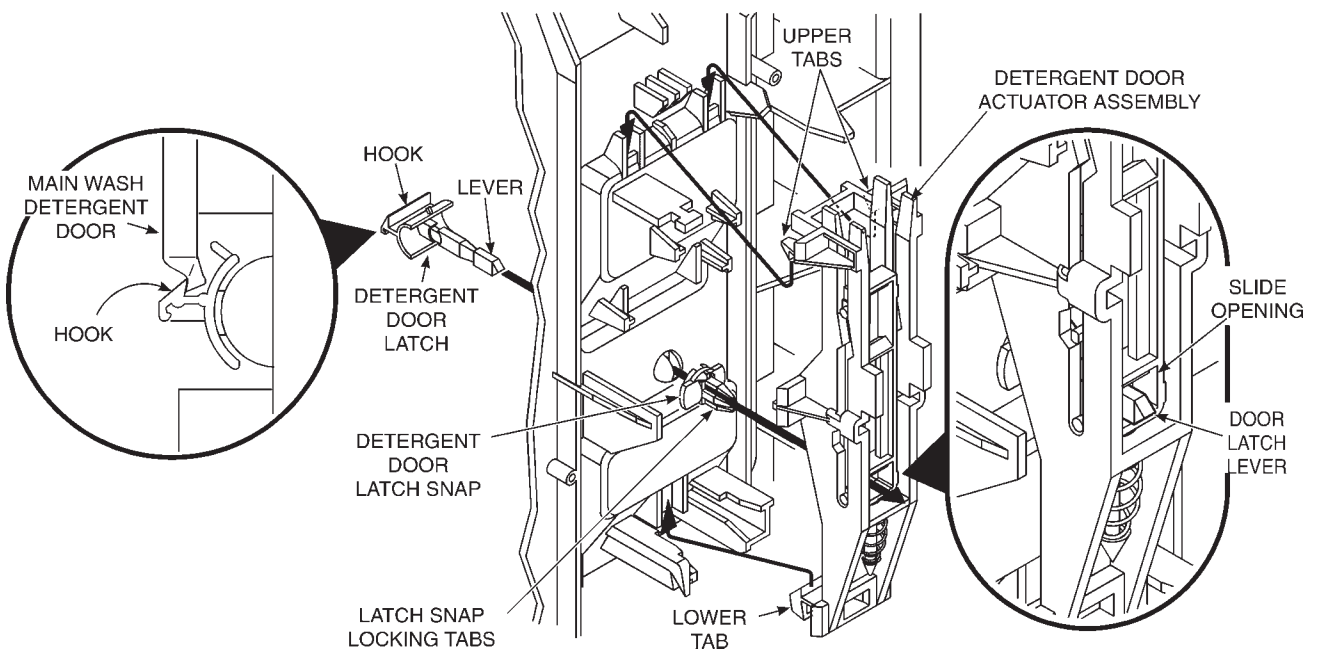

Fig. 3-14
9. Use a screwdriver to gently release the lower tab and remove the detergent door actuator assembly. As you do, note the position of the door latch level through the hole in the lower slide. (Fig. 3-14)
2. Pass the detergent door latch lever through the panel, making sure to turn the hook of the latch toward the detergent door. Snap the detergent door latch snap onto the door latch lever. (*Fig. 3-14*)